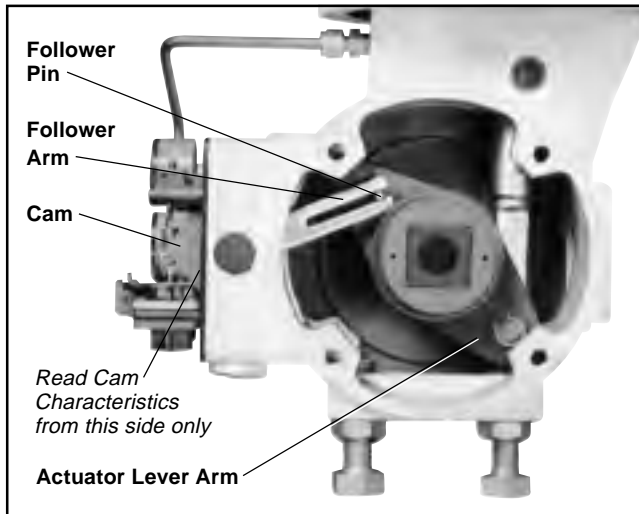

Figure 5: XL Series Positioner Installation on Valtek Rotary Actuator
5. If the follower pin is present, insert it into the hole in the actuator lever arm and drive it firmly into place with a hammer. (See Figure 5.)
6. Apply grease to the sliding surfaces of the follower arm before mounting the positioner to the transfer case. When mounting the positioner to the transfer case, make sure to guide the follower arm so the pin slides in the slot on the follower arm. (See Figure 5.) Fasten the positioner to the transfer case with the three mounting screws. Push up on the cam to verify the pin is riding in the follower arm slot or remove transfer case cover plate to inspect.